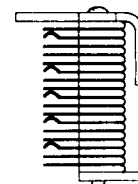

Fig. 14—212A Connector
**2.07 212A:** The 212A connector (Fig. 14) consists of 15 strips of contacts assembled between insulators to form 8 banks of contacts and 1 bank of soldering lugs. Each bank of contacts consists of three vertical rows of five contacts each, to accommodate a 348A plug. The contacts of each strip are common electrically. This connector is provided with an electrostatic shield between contacts three and four and is used in the No. 557A PBX switchboard.